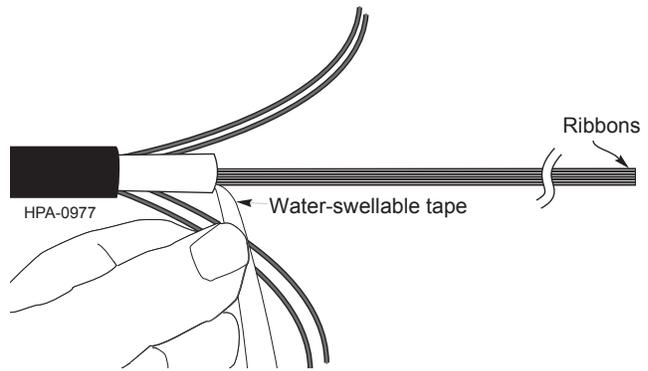

Figure 14
Step 4: Carefully separate the water-swappable tape from the ribbons (Figure 14).